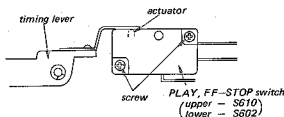

Fig. 3-7. PLAY, FF-STOP switch (S602, 610) position adjustment
1. Place the unit in the FF or REW mode, to energize the brake solenoid. Check to see that the actuator of microswitch is perfectly pushed with the timing lever as shown in Fig. 3-7. If necessary, adjust the position of the microswitch by loosening the two switch holding screws.